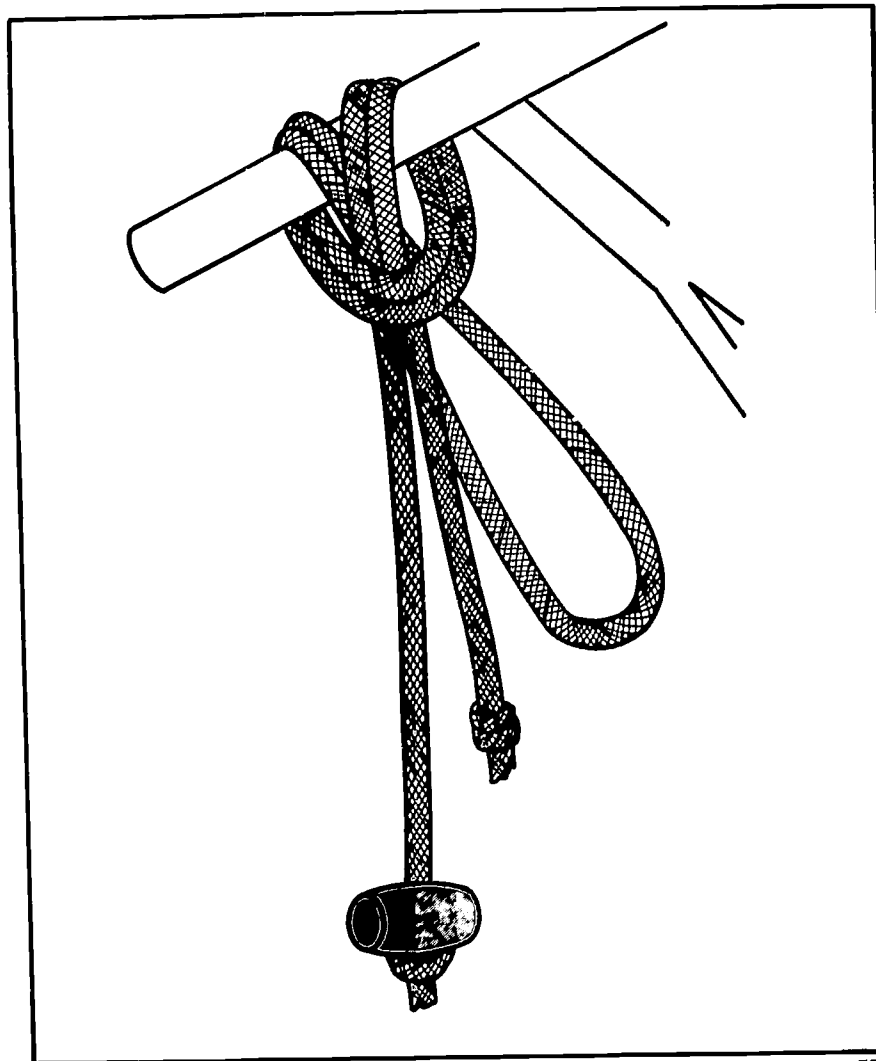

FIGURE 14. A method for stowing the crankrope.
5. *Stow rope on equipment (Figure 14).*
Double rope twice. Make a "girth-hitch" knot and loop it over the handle bar or some safe part of the equipment (Figure 14).